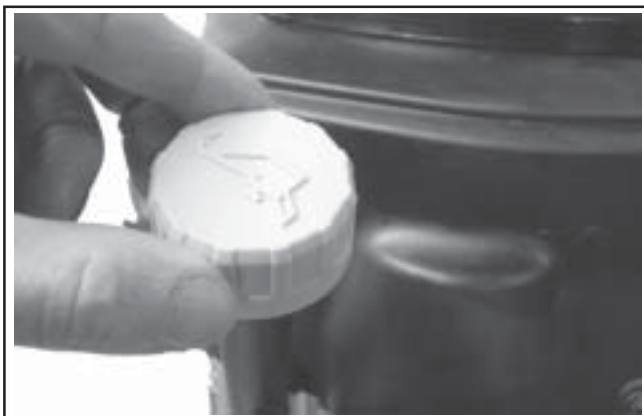

Figure 6-2. Oil Fill Cap/Dipstick.
3. Unthread and remove the oil fill cap/dipstick; wipe oil off. Reinsert the dipstick into the tube and rest the oil fill cap on the tube. Do not thread the cap onto the tube. See Figure 6-2.